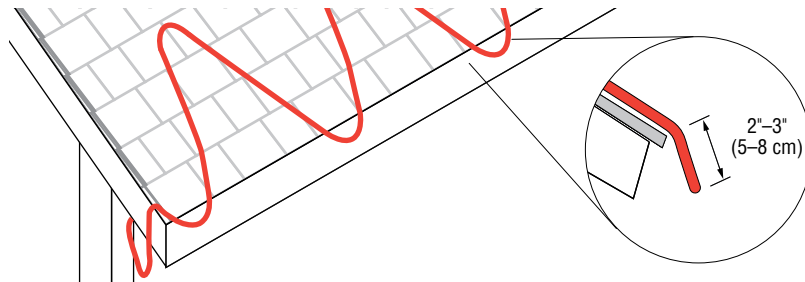

Figure 1.6 Layout for heated drip loops.
- Heating cable length in Table 1.1 includes six inches of cable for attaching the cable installed on the roof to the cable installed in the gutter. It also assumes the gutter is 4 inches deep. If there is no gutter on the building then you should subtract three inches from the length of heating cable in Table 1.1. The extra three inches will allow the heating cable to form a drip loop off the edge of the roof (see Figure 1.6). For gutter deeper than four inches, additional cable will be needed, contact Tyco Thermal Controls at (800) 545-6258.
Route the heating cable as shown in Figure 1.6 below and follow the appropriate attachment recommendations in Step 2. Additional heating cable may be needed for valleys.
- The drip loop must hang below the lip of the roof as shown in Figure 1.6.